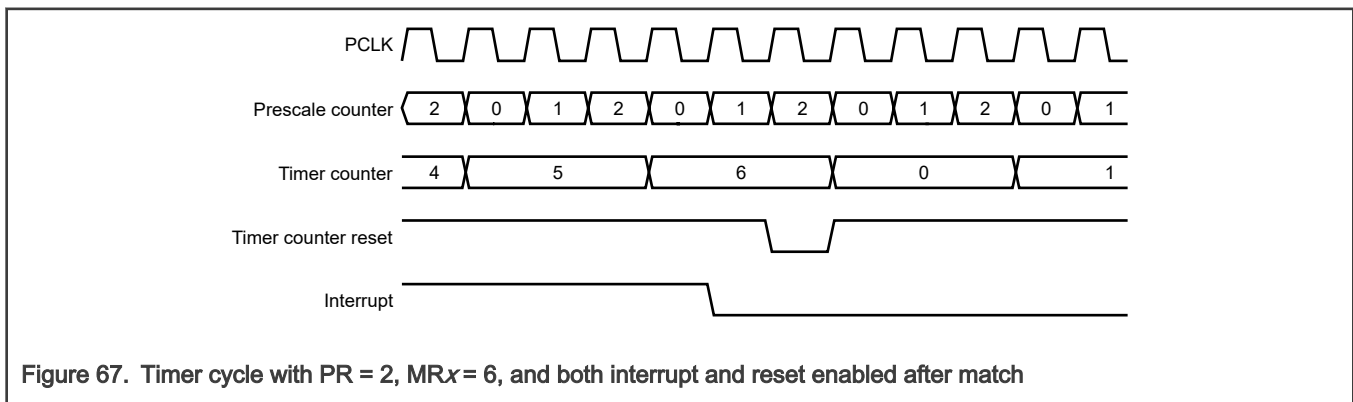

Figure 67. Timer cycle with PR = 2, MRx = 6, and both interrupt and reset enabled after match
Figure 67 shows a timer configured to reset the count and generate an interrupt after a match. The value of **Prescale (PR)** is 2 and the value of **Match (MR0 - MR3)** is 6. At the end of the timer cycle where the match occurs, the timer count is reset and gives a full-length cycle to the match value. The interrupt indicating that a match has occurred is generated in the next clock after the timer reaches the match value. Timer mode is selected in this case.